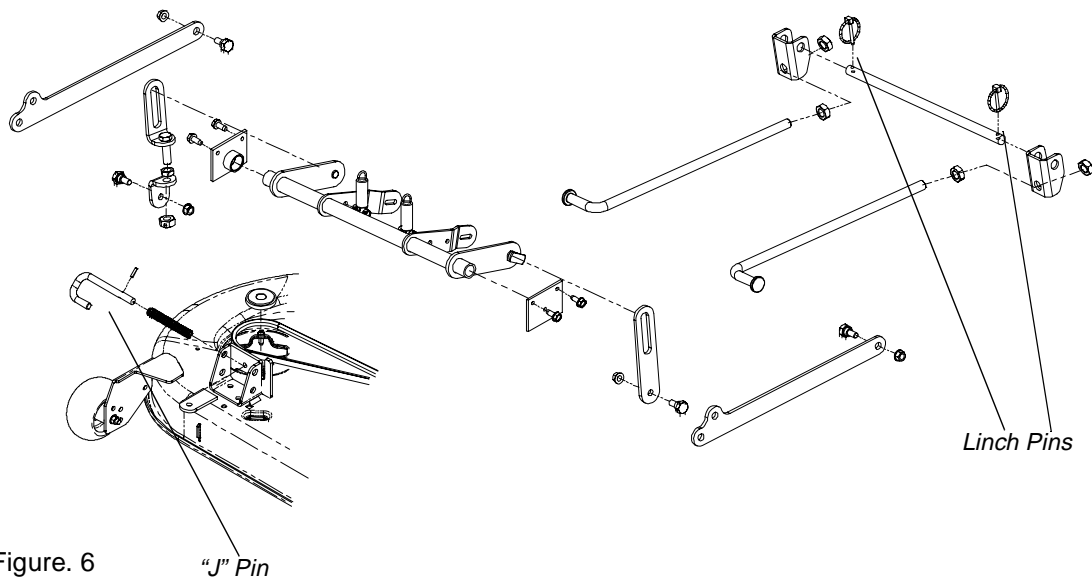

Figure. 6
- e. Remove two linchpins (See Fig. 6) from the front of the mower. Pull the two (2) spring-loaded "J" pins on the left and right rear side of the cutter deck.